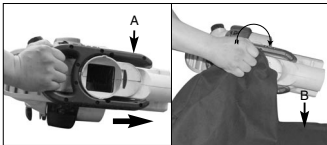

Fig. 3
Pull the slide (A) forward and fit bag (B) into the vacuum housing. (See Fig. 3)